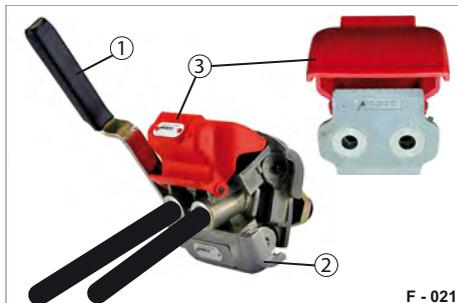

Fig. 21 Duo-Matic, uncoupled
- ▶ Pull the handle (Fig. 21/1) of the Duo-Matic quick-release coupling socket upwards and pull out the coupling head (Fig. 21/3) from under the protective cover.